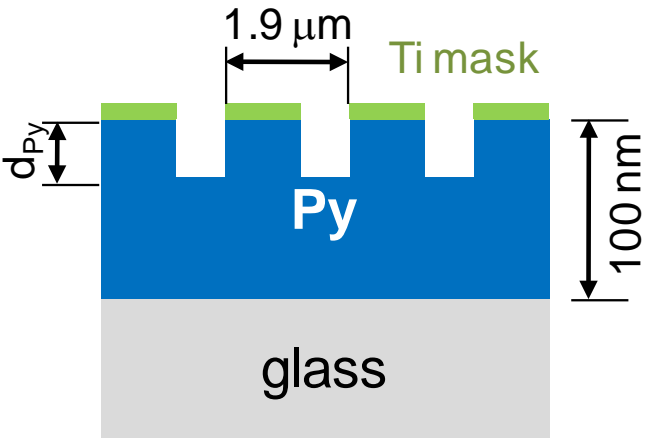

Figure 1. Cross section sketch of patterned samples
Patterned Permalloy (Py) submicrometric stripes were fabricated by interference lithography (IL) and magnetically characterized by vibrating sample magnetometry (VSM) [1, 2]. Photoresist templates generated by IL were used to deposit a Ti hard mask on a 100 nm thick Py layer. Then Ar⁺ ion etching transferred the Ti mask onto the Py layer (Figure 1). Line periodicity was set at 1.9 microns with an inter stripe distance of 700 nm. Four Py etching depths ($d_{Py} = 10, 15, 25$ and 50 nm) were determined by atomic force microscopy (AFM) imaging (Figure 2).